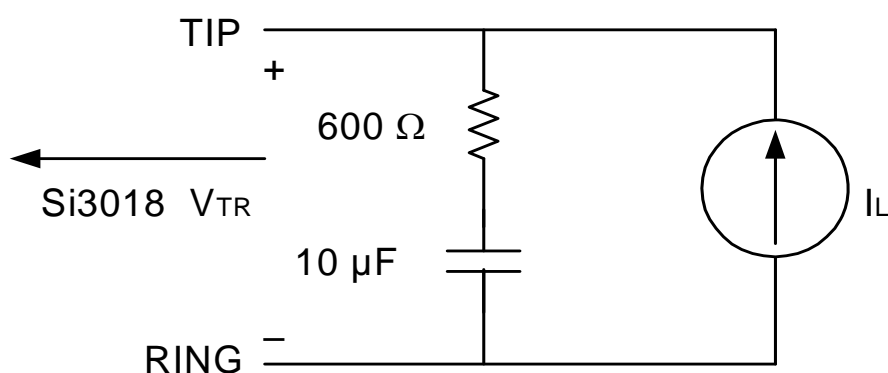

Figure 26. Phone Line Termination Circuit
&T3	Initiate ITU-T V.54 (ANALOO) test. Modem mode set by &H. Test loop is through the DSP (ISModem), DAA interface section (ISModem), ISOCap interface (Si3018/10), and analog hybrid circuit (Si3018/10). ISModem echoes data from TX pin (Hardware Interface Register 0 in parallel or SPI mode) back to RX pin (Register 0 in parallel or SPI mode). Phone line termination required as in Figure 26. In order to test only the ISOCap link operation, the hybrid and AFE codec can be removed from the test loop by setting U62 [1] (DL) = 1.